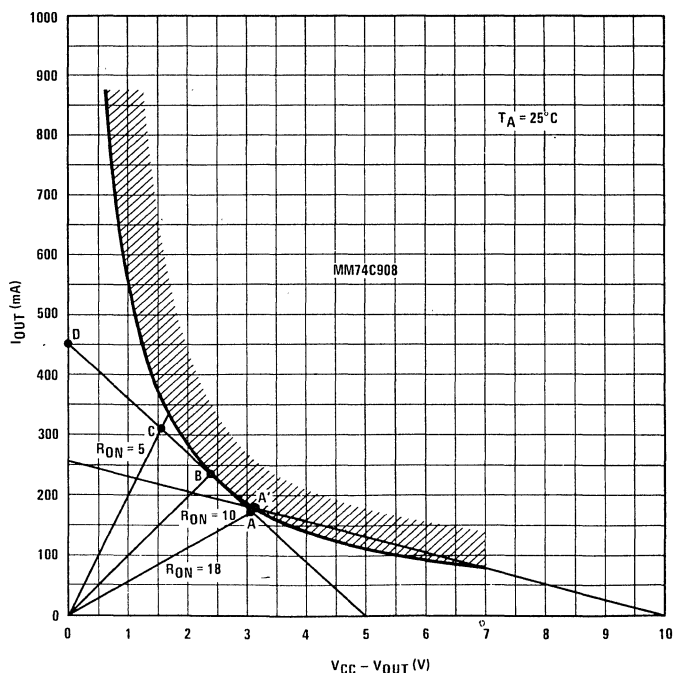
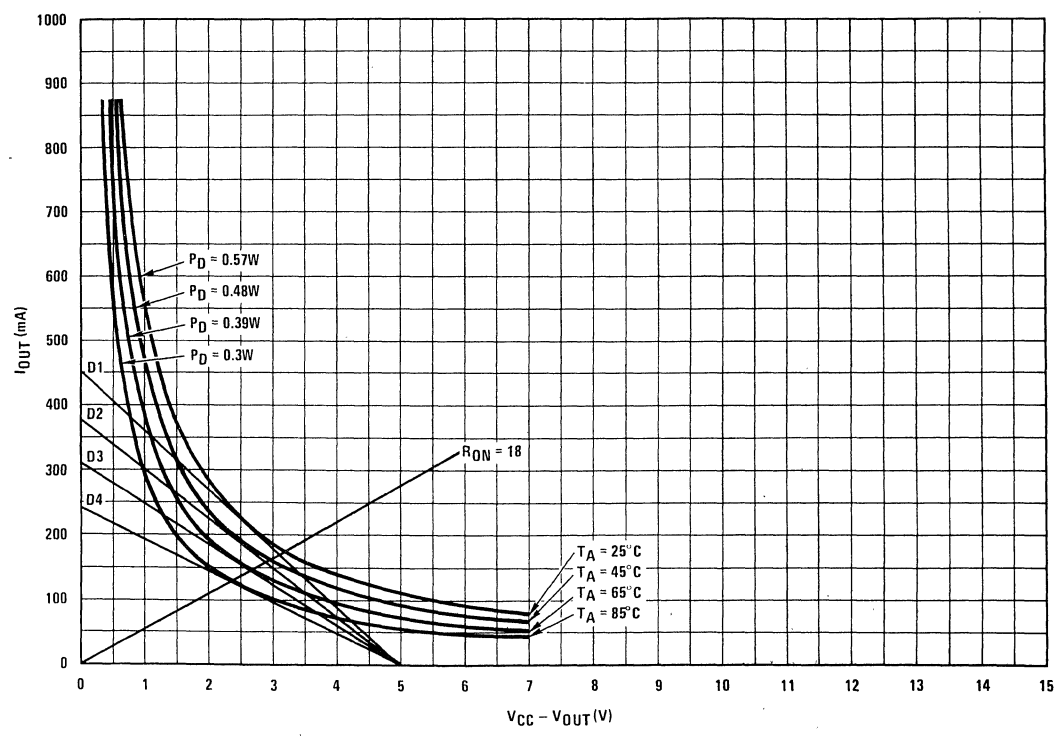

FIGURE 4
FIGURE 6
A constant power curve  $P_D = 0.57W$  can then be plotted as shown in *Figure 4*. The circuit must operate below this curve. Any voltage-current combination beyond it (in the shaded region) will not guarantee  $T_j$  to be lower than  $150^\circ C$ .
For any given  $R_L$ , a load line (7) can be superimposed on *Figure 4*.
Given  $V_{CC}$  and  $V_L$ , a minimum  $R_L$  can be obtained by drawing the load line tangent to the constant power curve. In *Figure 4*, at  $V_{CC} - V_L = 5V$  the line intersects  $I_{OUT}$  axis at  $I_{OUT} = 450$  mA. Thus,  $R_L(MIN) = 5V/450$  mA =  $11.1\Omega$ . Any  $R_L$  value below this will move the intersecting point up and cause a section of the load line to extend into the shaded region. Therefore, the junction temperature can exceed  $T_j(MAX) = 150^\circ C$  in the worst case if the circuit operates on such a section of the load line.
For  $V_{CC} - V_L = 10\text{V}$ , however, a section of the load line can go beyond the  $P_D = 0.57\text{W}$  curve without affecting the safe operation of the circuit. By inspection of Figure 4, the reason is clear—the load line extends into the shaded region only outside of the specified  $R_{ON}$  range (to the right of point A\*). Within the  $R_{ON}$  range, the load line lies below the  $P_D = 0.57\text{W}$  curve, thus, a safe operation.
For different ambient temperatures or for different power considerations, Figure 4 can be applied by properly scaling the  $I_{OUT}$  axis. (Note that  $I_{OUT} \propto T_j - T_A$  and  $I_{OUT} \propto P_D$ ).
To further simplify the design, a family of such curves has been generated as shown in *Figure 6*. Each of these curves corresponds to a particular  $T_A$  and  $P_D$  (per driver) as indicated, and similar to the  $P_D = 0.57W$  curve in *Figure 4*, is generated from (6) by using appropriate  $T_A$  values. The application of these curves is illustrated as follows:
By constructing the load lines tangent to the curves for  $T_A = 25^\circ C, 45^\circ C, 65^\circ C$  and  $85^\circ C$ ,  $R_L(MIN)$  for each case can be obtained through the vertical coordinate for the intersection points as shown in *Figure 6*. These are calculated in Table I.